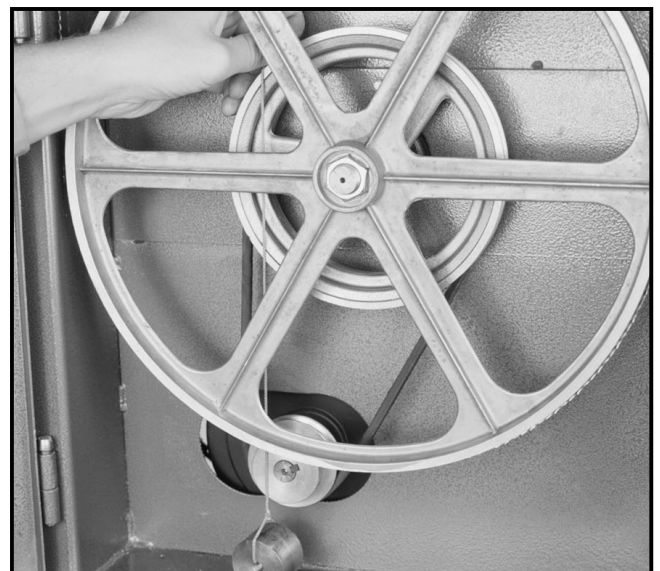

Figure 4. Adjusting pulley alignment
4. Check for proper pulley alignment by placing a plumb line on the outside edge of the upper pulley so that it overlaps the motor pulley. If the line touches both pulleys evenly, the pulleys are aligned. If the line does not touch both pulleys evenly, wiggle the motor until the pulleys come into alignment. If proper alignment is still not attained, loosen the setscrew (#62) on the motor pulley and push the pulley in or out to achieve proper alignment. Remember to retighten the setscrew when finished. **See Figure 4.**